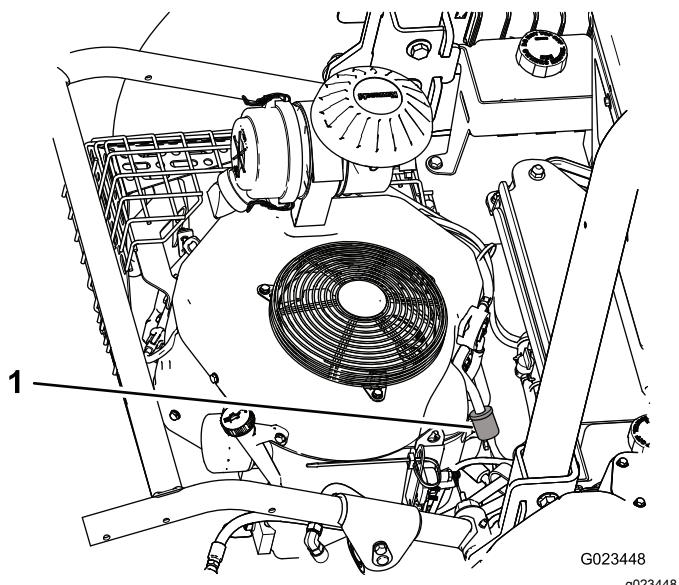
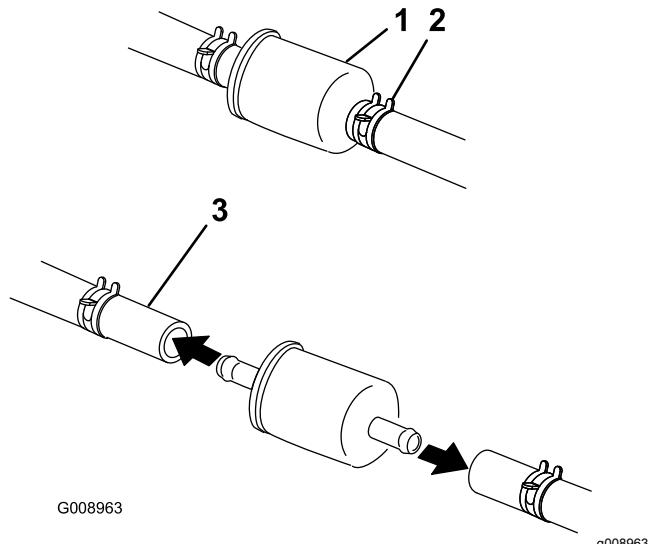

Figure 47
Figure 48
2. Loosen the hose clamp on the carburetor side of the filter, and remove the fuel line from the filter (Figure 47 and Figure 48).